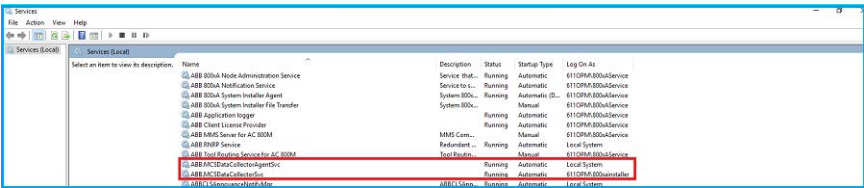

Figure 191. Agent Service
- HMISystemNames: Refer Figure 191
- ControllerSystemNames: Refer Figure 191